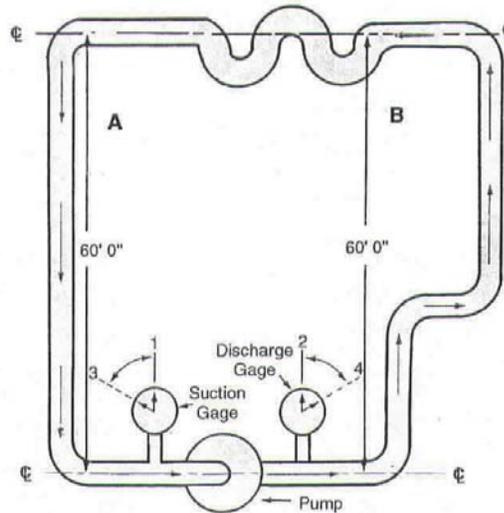

Fig. 1
2. In Fig. 1. what will the static pressure be at position 1 on the suction gage when the pump is off, if the suction gage position 3 reads 69.5 PSIG and the discharge gage position 4 reads 100 PSIG when the pump is on?